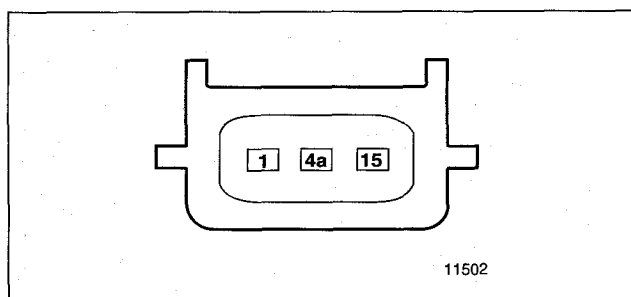

Fig. 4. Ignition coil harness connector terminal identification for M42 engine.
- On M42 engine, connect digital multimeter between terminal 15(+) in each harness connector and ground. See Fig. 4.
Terminals (refer to Fig. 4.)	Resistance